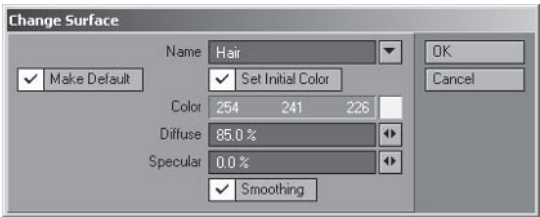

Figure 5.3-130. Hair surface.
7. **Change Surface** to **Hair** using the settings in Figure 5.3-130.